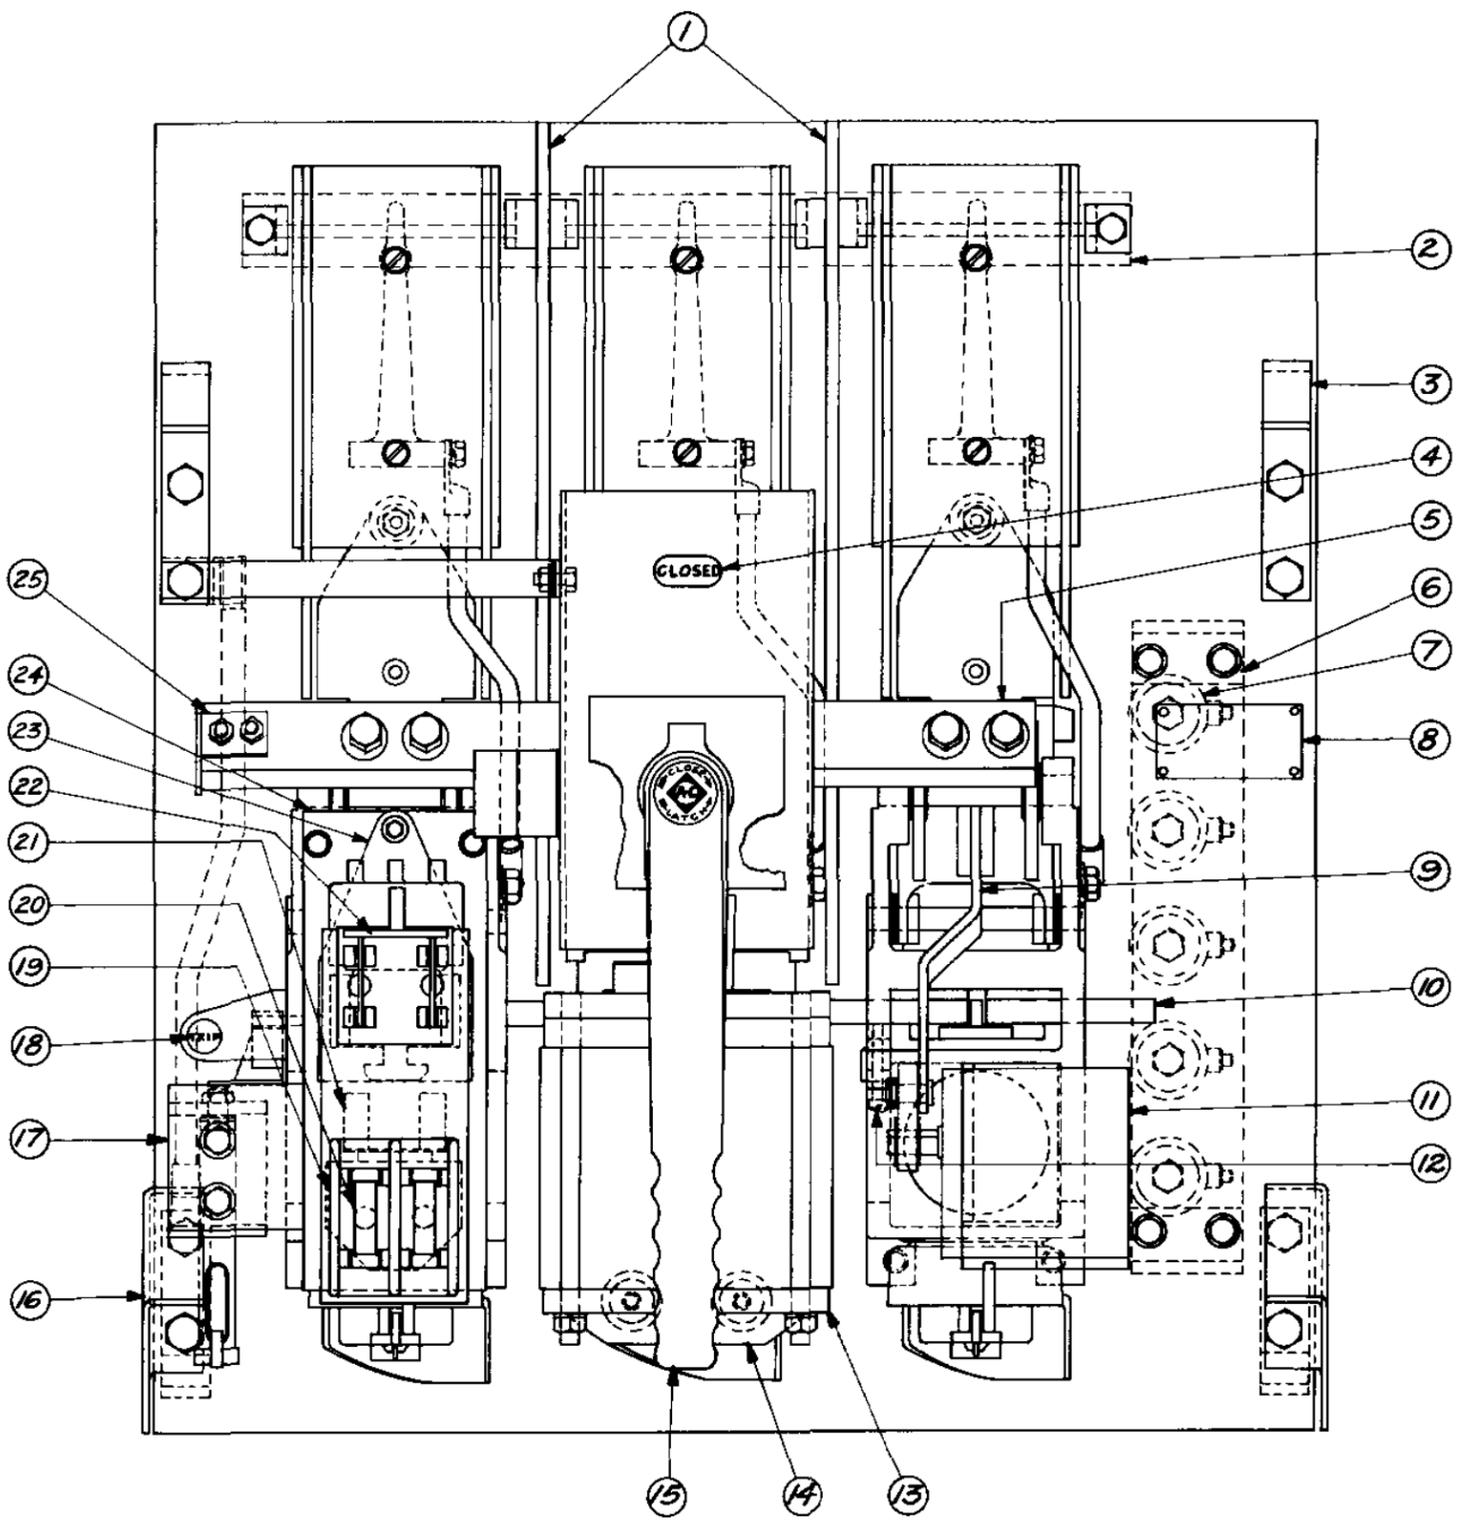

Fig. 4
- Fig. 4—Electrically Operated (*Front View*)